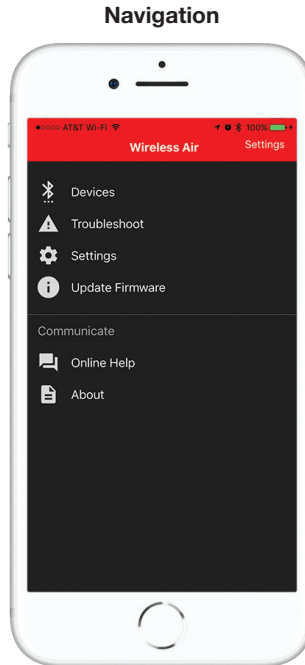

fig. E.1
1. The Navigation screen (Fig. E.1) has these options: